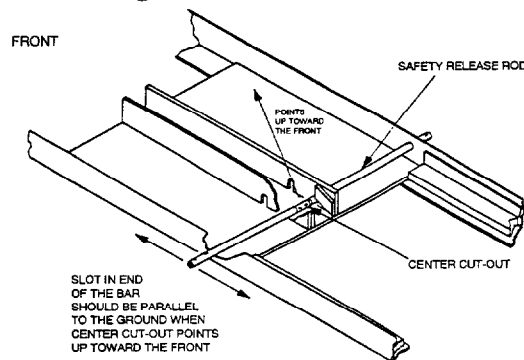

Figure 6: Safety release rod location/Right Baseframe
4. Slot in end of the bar should be parallel to the ground when center cut-out points up toward the front. Refer to **Figure 6**.